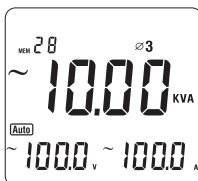

Figure 16
- Press **SELECT** again to choose the third phase Ø3, see figure 16.